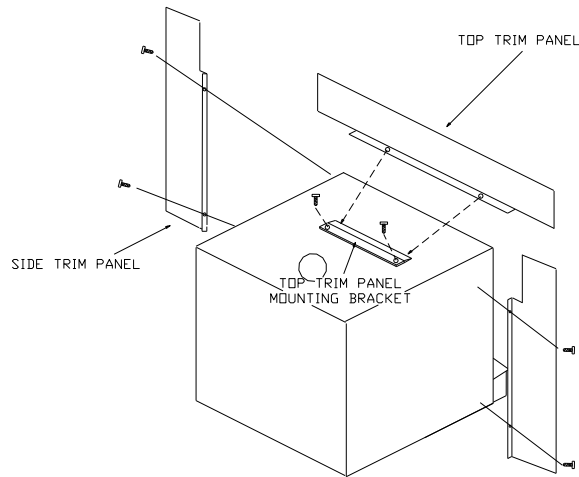

**FIGURE 2 POSITIONING**
When positioning heater, following conditions **MUST** be met! (See Figure 2).
1. The front of damper opening must be positioned **BEHIND** rear edge of lintel to ensure proper draft. (See Figure 2).